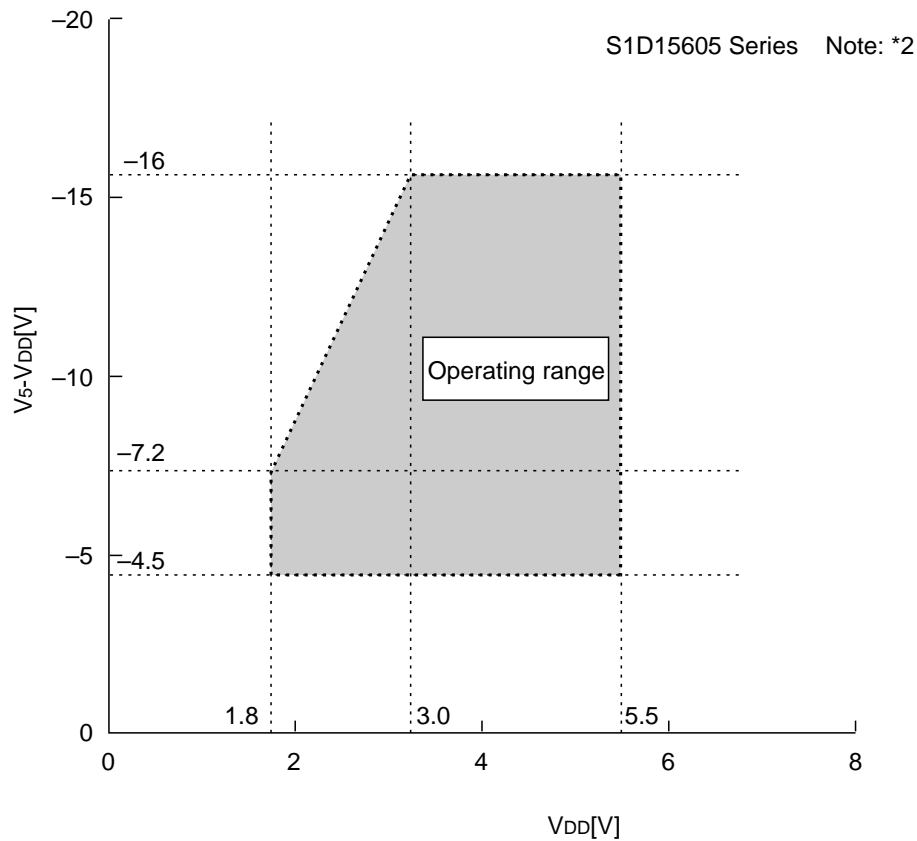

Figure 36
- \*2 The operating voltage range for the VDD system and the V5 system is as shown in Figure 36. This applies when the external power supply is being used.
- \*3 The A0, D0 to D5, D6 (SCL), D7 (SI),  $\overline{RD}$  (E),  $\overline{WR}$  (R/W),  $\overline{CS1}$ , CS2, CLS, CL, FR, M/S, C86, P/S,  $\overline{DOF}$ ,  $\overline{RES}$ , IRS, and  $\overline{HPM}$  terminals.
- \*6 Applies when the D0 to D5, D6 (SCL), D7 (SI), CL, FR, and  $\overline{DOF}$  terminals are in a high impedance state.
- \*7 These are the resistance values for when a 0.1 V voltage is applied between the output terminal SEGn or COMn and the various power supply terminals (V1, V2, V3, and V4). These are specified for the operating voltage (3) range.